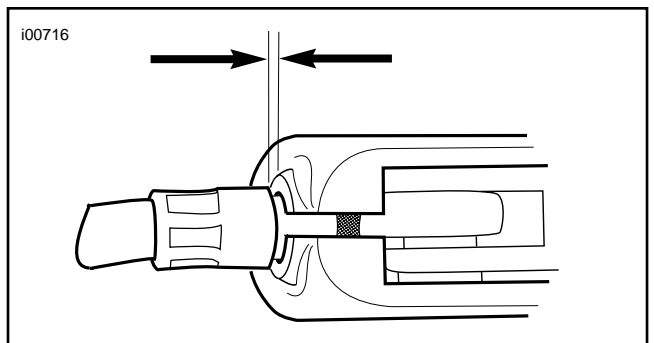

Figure 3. Clutch Cable Adjustment
- Turn cable adjuster away from jam nut until slack is eliminated at hand lever. Pull clutch cable ferrule away from clutch lever bracket to check free play. Turn cable adjuster as necessary to obtain 1/16 to 1/8 inch (1.6–3.2 mm) free play between end of cable ferrule and clutch lever bracket as shown in Figure 3.